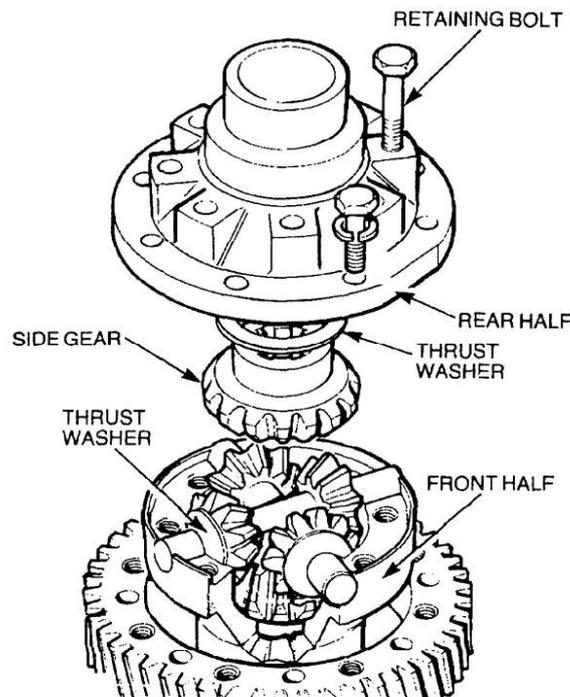

Figure 212 Reassembly of the Differential
- (1) It is important that the differential components are lubricated with clean oil during assembly. All components must be lubricated with clean oil during assembly.
- (2) Both the differential case halves and the pinion shafts are supplied as matched pairs only.
- (3) The bevel pinions and side gears are supplied as a matched set of six and should not be interchanged. Replace them as a set only.
- (4) The side gears must be adjusted to allow an end-float of 0.025 mm (0.010 in) and a pre-load of 0.025 mm (0.010 in).
- (5) The range of shims available is from 1.05 to 1.45 mm (0.041 to 0.057 in) in 0.10 mm (0.004 in) increments.
- b. Support the differential front half in the vertical position (Figure 212). Install a side gear and thrust washer into the front half of the differential. Fit the bevel pinions, thrust washers and pinion shafts onto the front half and side gear. Insert the remaining side gear and thrust washer into the rear half and fit the two halves together.